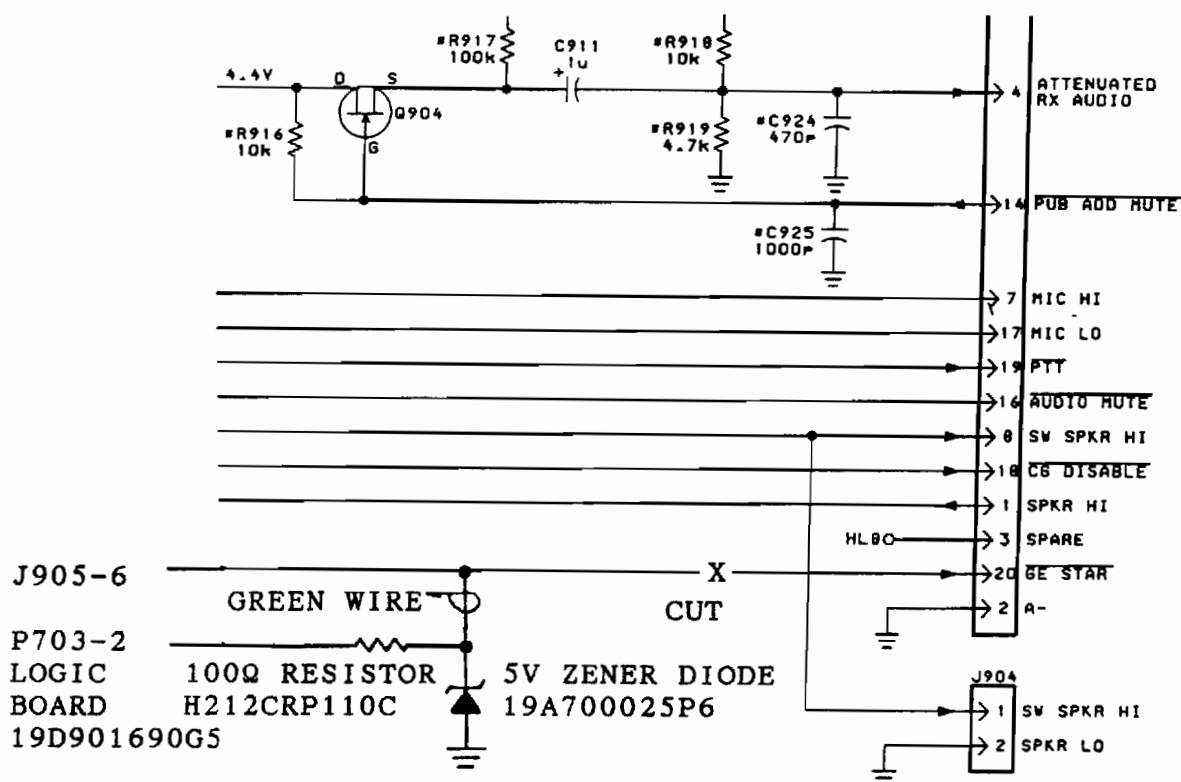

FIGURE 6
This addendum provides a correction to the drawings in Figure 6 and 10 found on pages VI-6 and VI-8 respectively. This addendum also adds Section VII. Section VII provides information for the MDS Conventional and GE-MARC radio Data Application Kit 344A3191G8. The information provided in the Appendix for the MVS radio will also apply to the MDS radio. The new drawings (below) and Section VII (starting on the following page) will be incorporated at the next printing of LBI-38596.
**Figure 6 on page VI-6**